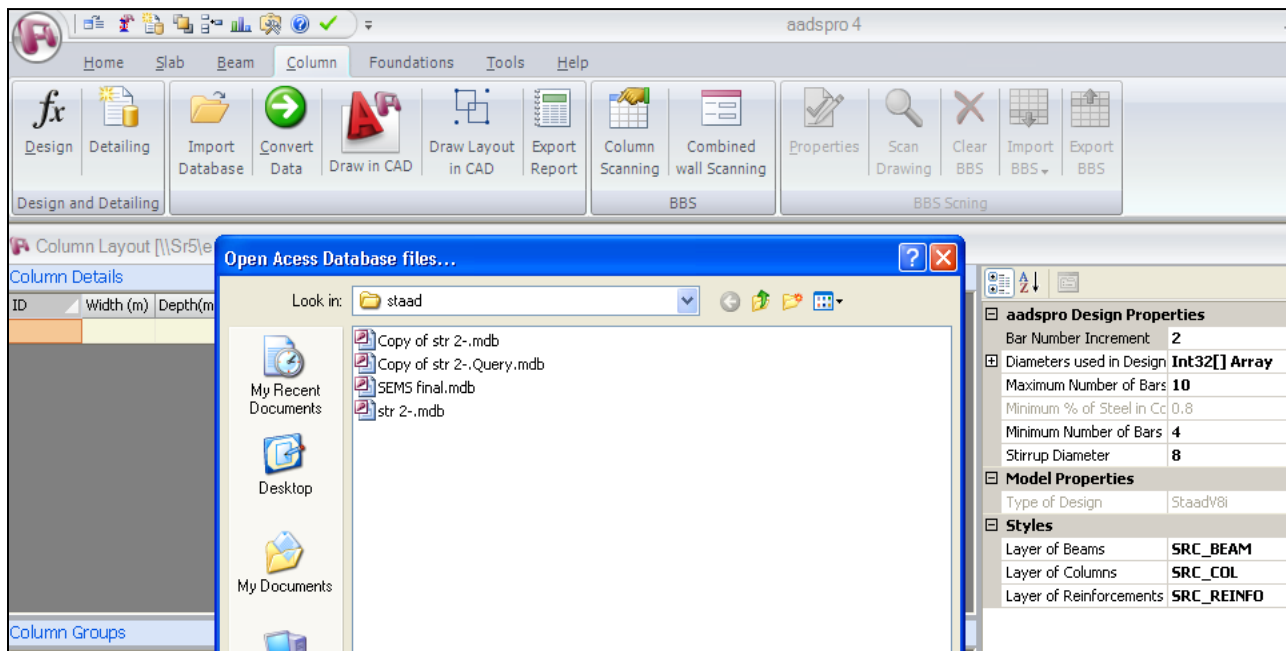

Fig 8.1.5
- Click on the Import Database from tool bar (fig 8.1.5)
Aadspro will check the entire column for any invalid data, if it found any invalid data column it will be marked with red color. User can view the error message by right clicking (Fig 8.1.5) the grid and selecting the Warnings menu